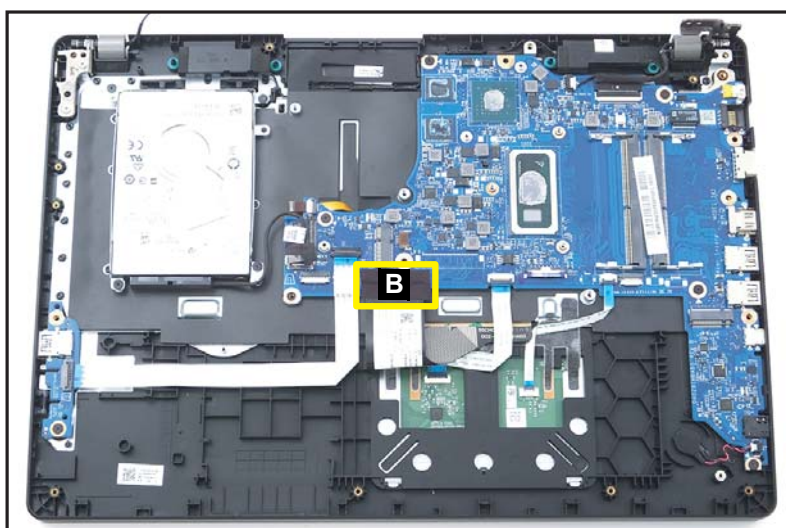

Figure 1-44. Mainboard Removal
4. Peel off and remove the tape (B) securing the keyboard FPC (Figure 1-44).